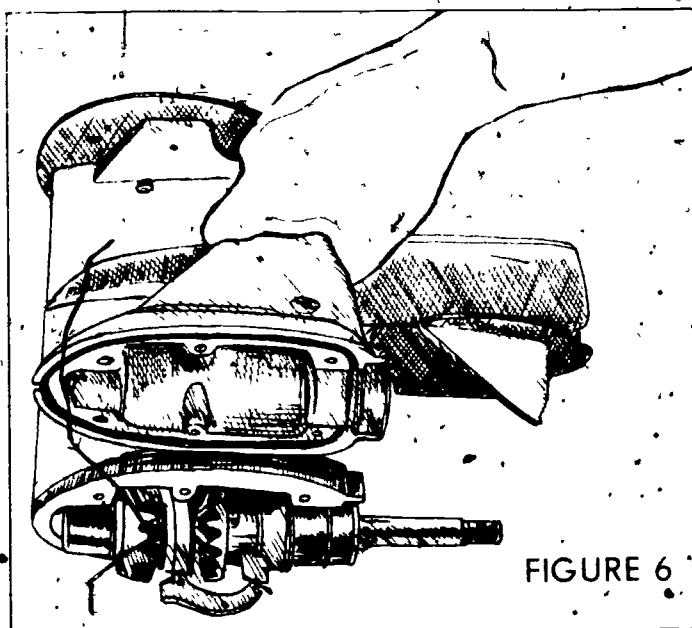

FIGURE 6
12. Separate gearcase halves (Figure 6)